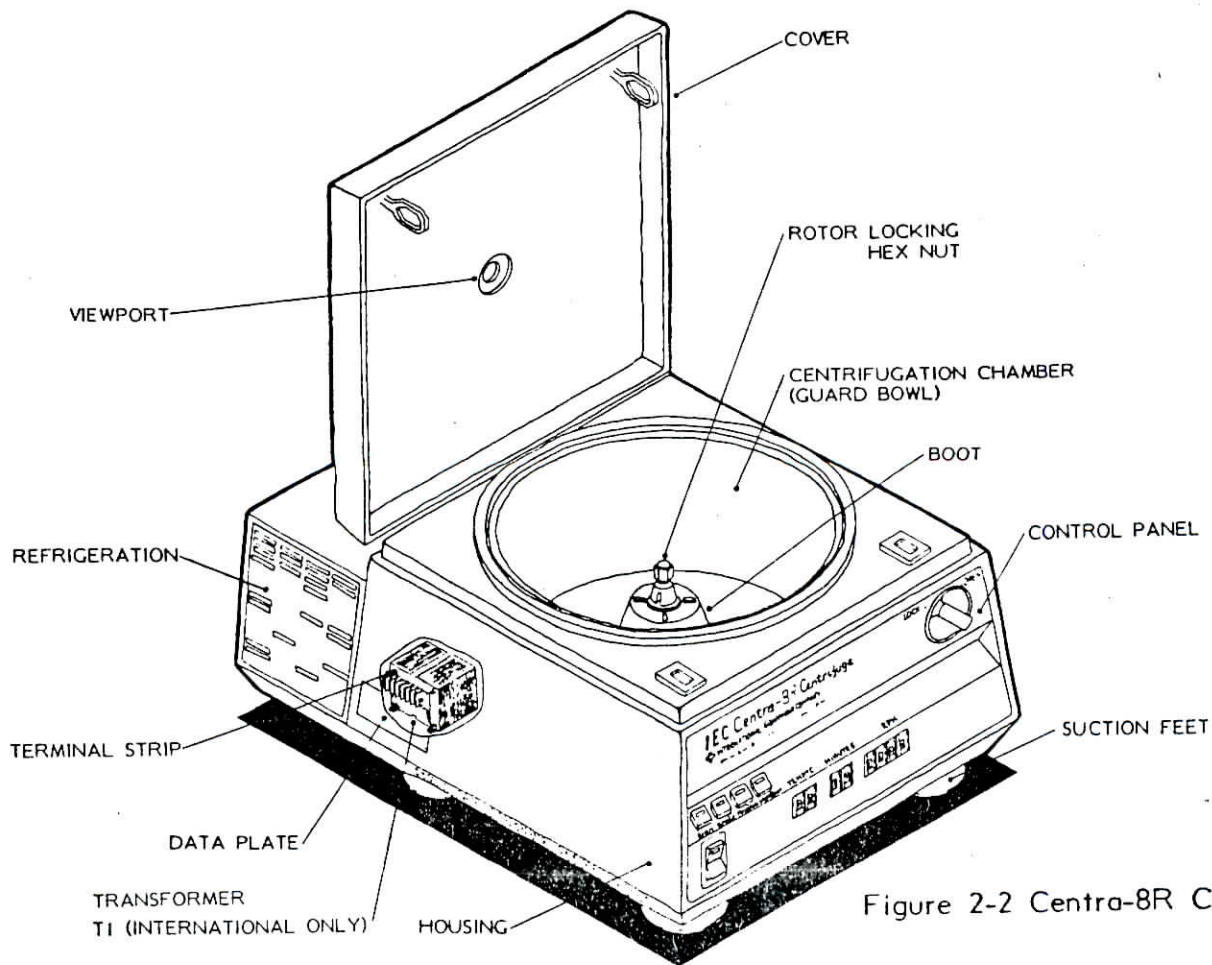

Figure 2-2 Centra-8R Centrifuge
Refer to Figure 2-2
- Locate the auto transformer T1, directly behind the drive motor and shown in Figure 2-2.
- Locate the terminal strip on the top of T1 shown in Figure 2-2.